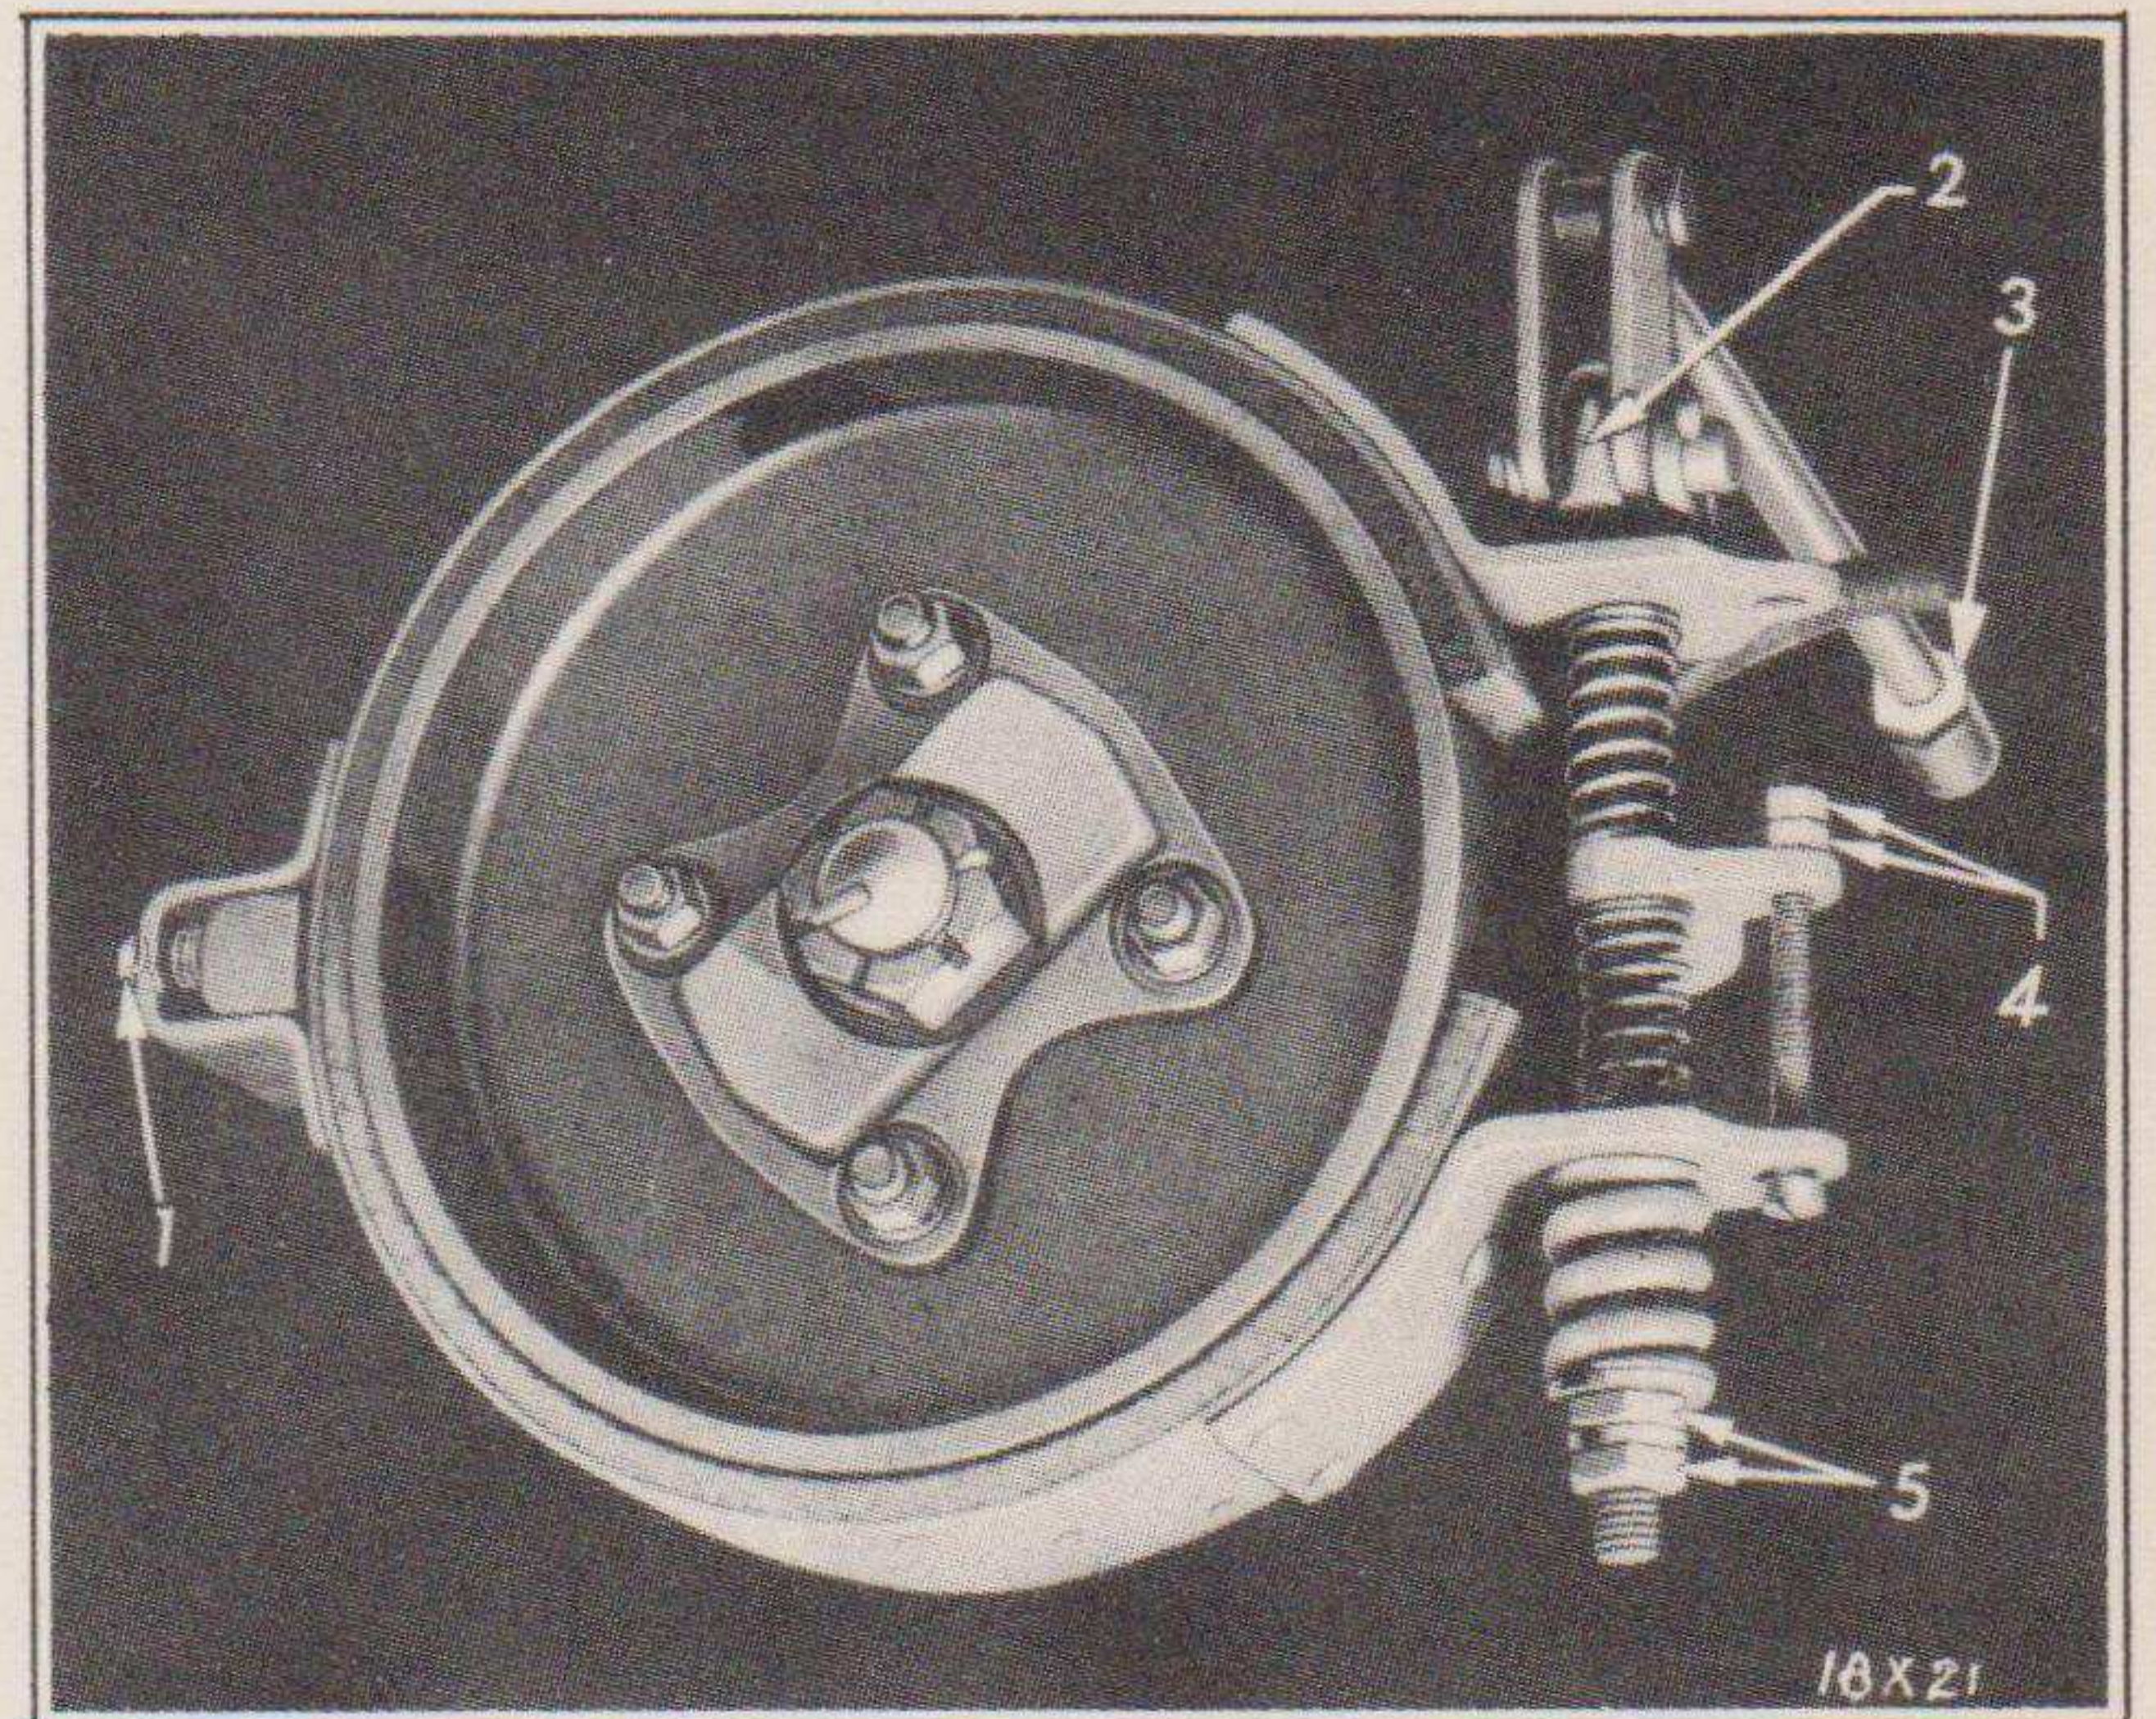

Fig. 85—Hand Brake
- (a) Remove the large adjusting bolt nuts (5, Fig. 85).
- (b) Remove the anchor screw lock wire and adjust the screw so the band and drum have .010" to .012" clearance at the anchor (1, Fig. 85).
- (d) Back off the adjusting bolt lock nuts (5, Fig. 85) until free.
- (e) Turn the bracket adjusting screw nut (4)